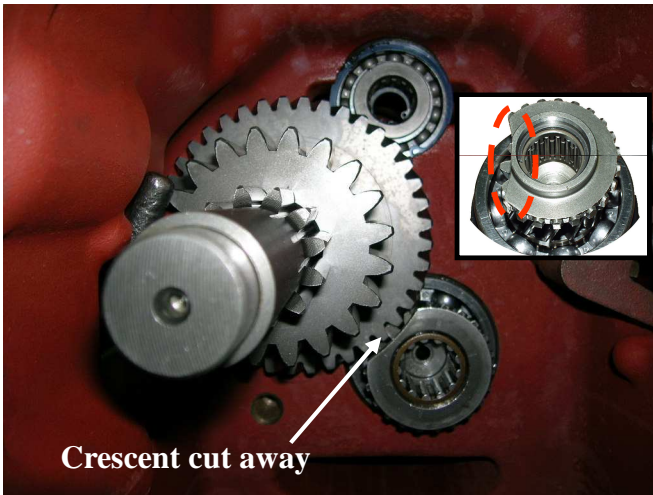

Fig.5-42
a. Set the cut away part of the gear so that it clears the gear as shown in Fig.5-42